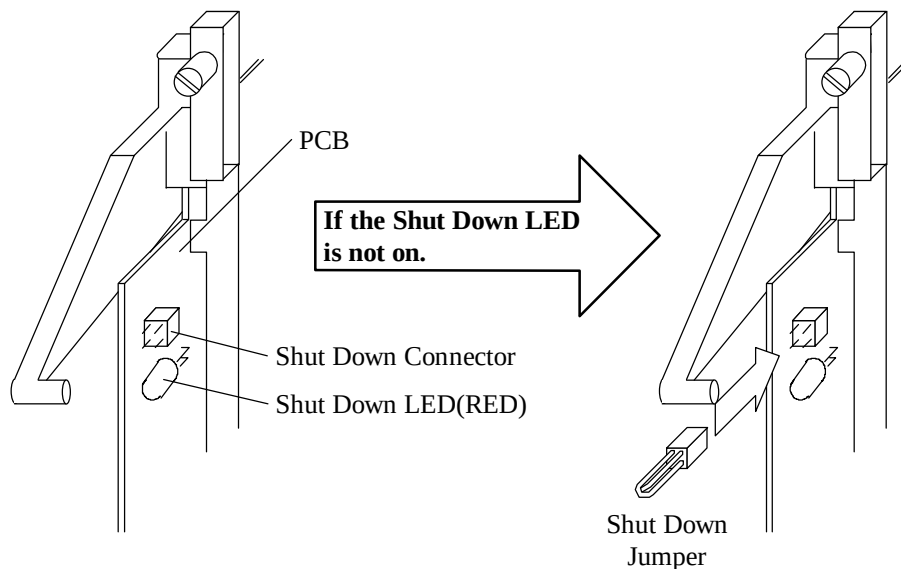

Fig. 4.7.2-1 Shut Down LED
- a. Confirm that Shut Down LED is on.(Fig. 4.7.2-1). If the LED is not on, connect the Shut Down Jumper to the Shut Down Connector.